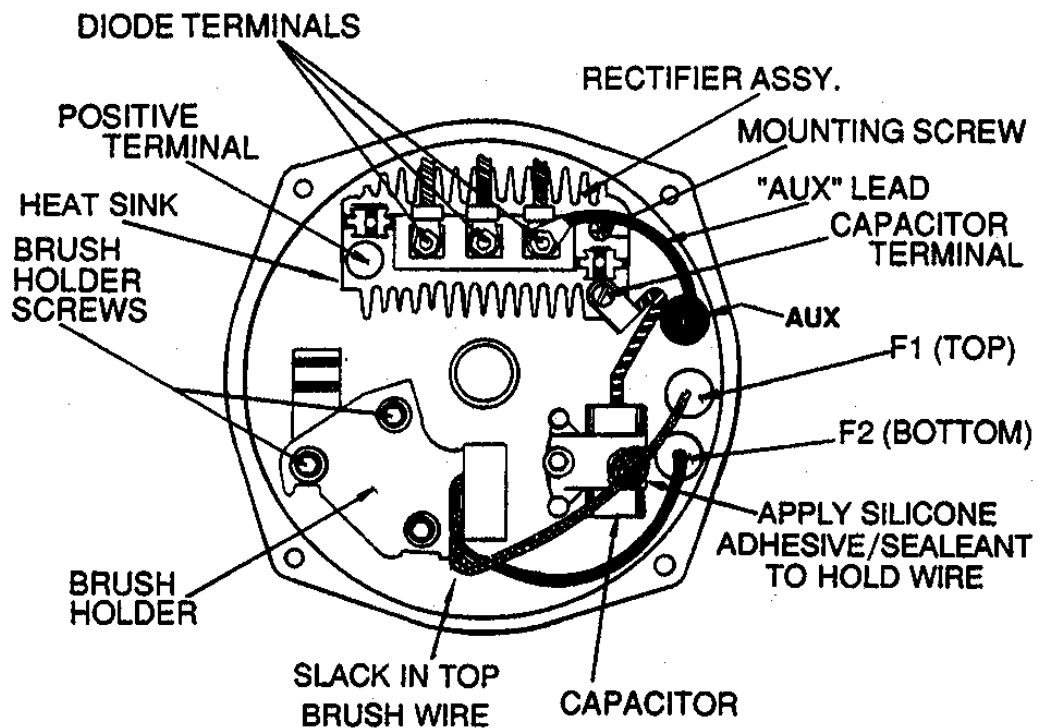

FIGURE 7
F1 (FLD 1) brush lead is secured across the capacitor between the screw and capacitor support post with silicone adhesive. Allow slack between the securing point and brush-holder assembly. See Figure 7.
3. Install the black insulator (32) outside the housing on the "AUX" terminal. Install and tighten terminal nut (36). Torque to 20-25 in. lbs.
4. Place the rectifier assembly (28) in the housing (29).
5. Install the red insulator (25) and terminal nut (36) on the positive output stud (20) (BAT position).
6. Apply 1.octite # 242" to the # 8-32 rectifier mounting screw (27) and torque to 15-20 inch pounds.
8. Attach the capacitor terminal (19) to the positive heat- sink (heat-sink containing BAT terminal) with the #8-32 screw (16). Torque to 15-20 in.-lb.
9. Install (3) # 8 flat washers (24) on the diode terminals. Install the "AUX" lead on the diode terminal as shown in Figure 7 (Do not install nut on diode terminal).
10. Insert the stator assembly (12) into the housing. Orient the stator so that the leads fit the diode terminals and the through bolt clearance cutouts align with through bolt holes in the housing.
11. Attach the three stator leads and the "AUX" lead with washers (24) and three #8-32 nuts (23). Torque to 15-20 inch pounds. Insure that the stator leads do not touch the heat-sink. If leads touch heat-sink, a short may result.